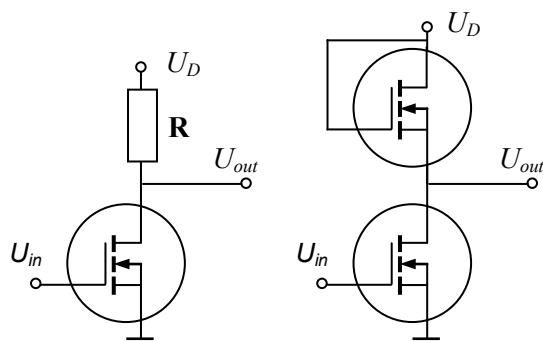

Fig. 2.43
**Inverter switches.** Fig. 2.43 shows passive and active *inverter switches* built on the MOSFETs. When the input voltage  $U_{in}$  is low (less than the threshold level), the output voltage  $U_{out}$  is high (equals the supply voltage) and vice versa if the *passive load* **R** is much greater than